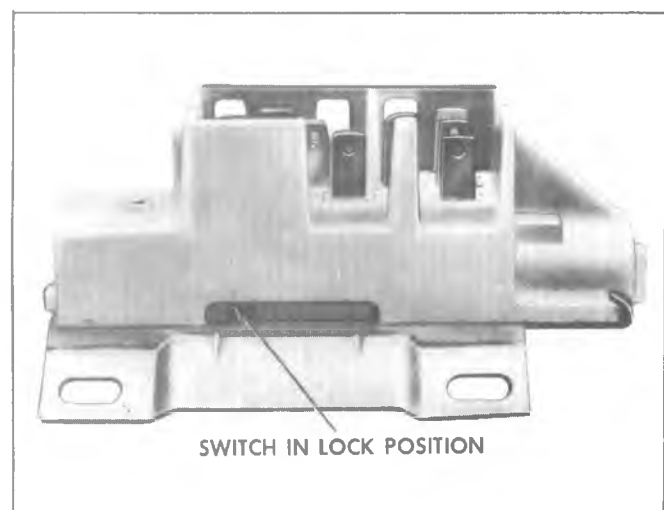

Fig. 3B4-32—Ignition Switch Assembly
1. Before replacing the switch, be sure that the lock is in the "Lock" position (Fig. 3B4-32); if it is not, a screwdriver (placed in the locking rod slot) can be used to move the switch to "Lock".